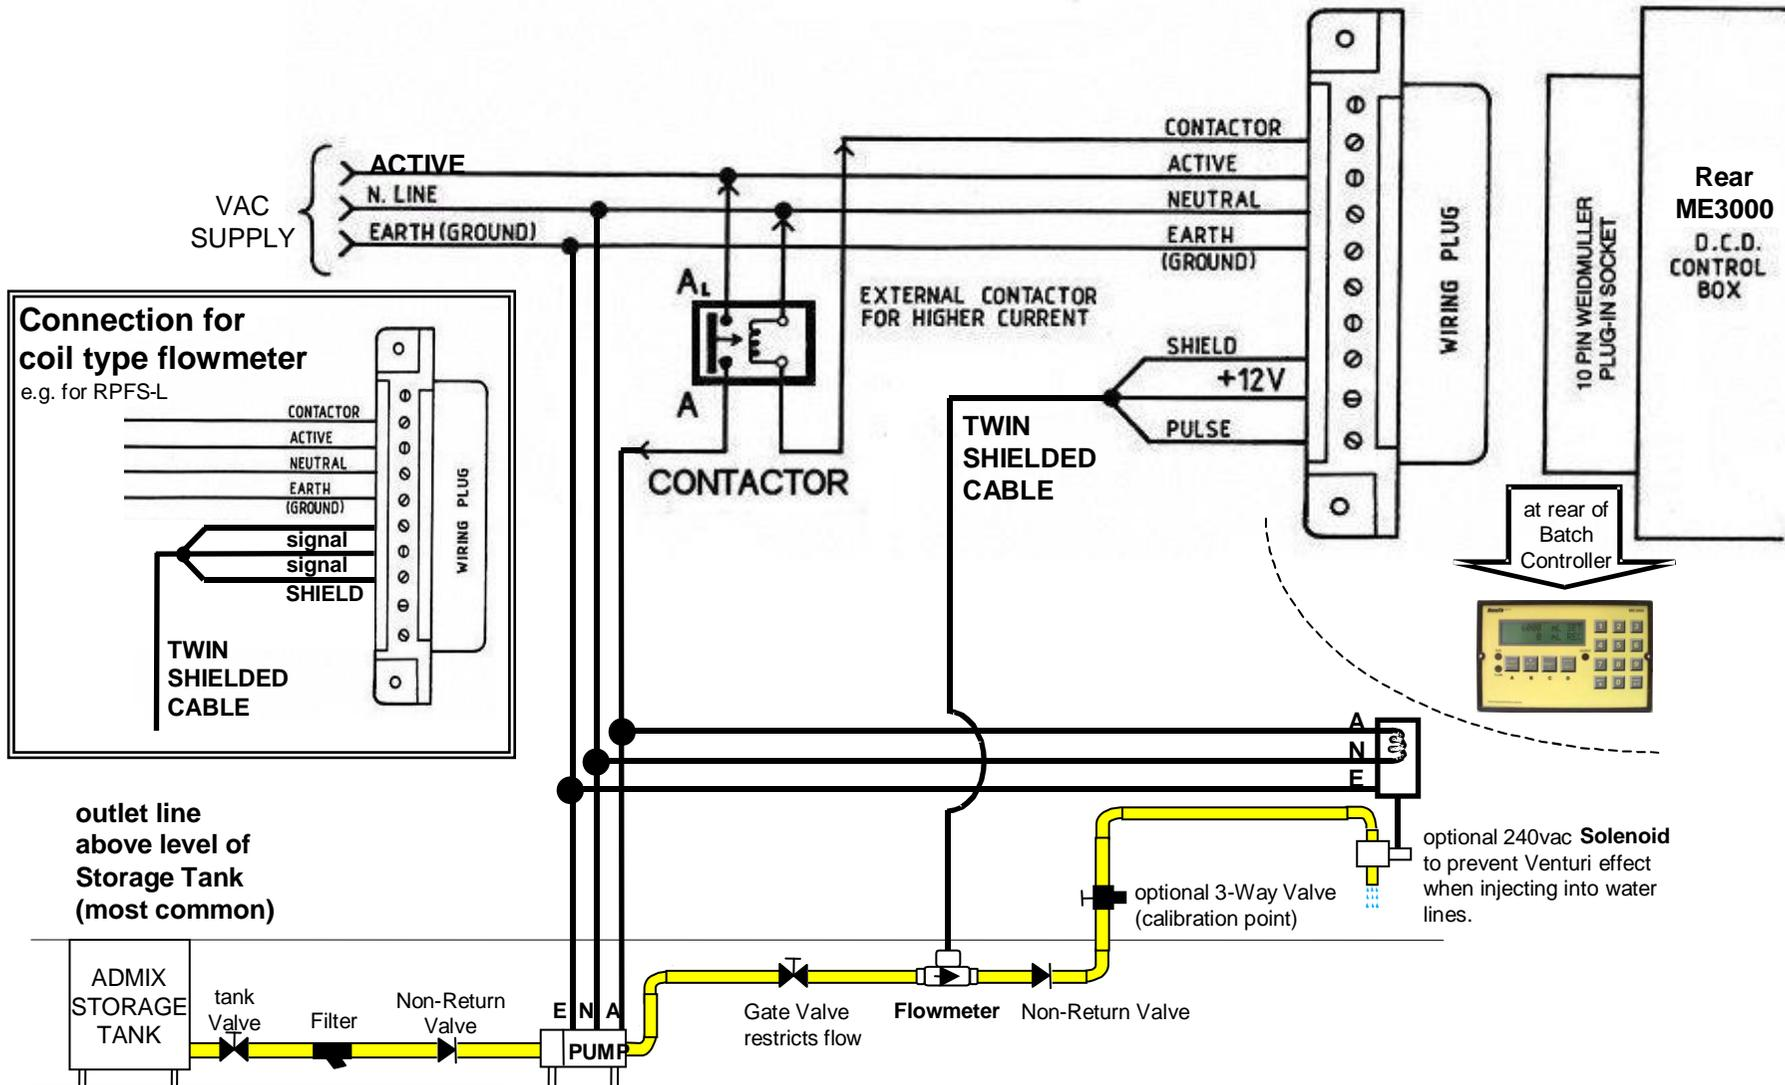

Figure 7. ME3000 - Standard AC Wiring
The usual wiring for a 240vac powered ME3000 Batch Controller is shown in Figure 7 “ME3000 - Standard AC Wiring” on page 18.
- Figure 7 (note the insert box describing coil flowmeter connection) on page 18 must be followed for connection of the coil flowmeter.